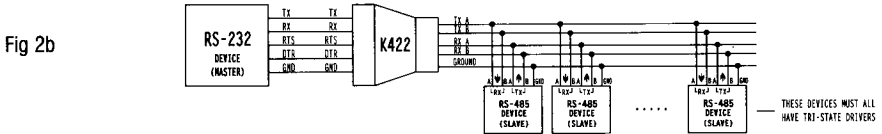

Fig 2b
**4-wire RS-485 only:** because the Master drives a bus which is separate from the bus driven by the Slaves, the Master does not need tri-state capability. The **K422** should therefore be used on the Master. In the unusual case where the Slaves are RS-232 devices, a **K485-4W** (available to special order) must be used on each Slave, and again each Slave device must properly control its RS-232 RTS signal to control its K485-4W driver. See Fig 2b.
The main advantage of **4-wire** RS-485 systems is that the Master does not need tri-state capability. This often allows Master software and drivers originally developed for RS-232 to be used in a multidrop system, provided of course that the Master software emits the correct device addresses. See Fig 2b.